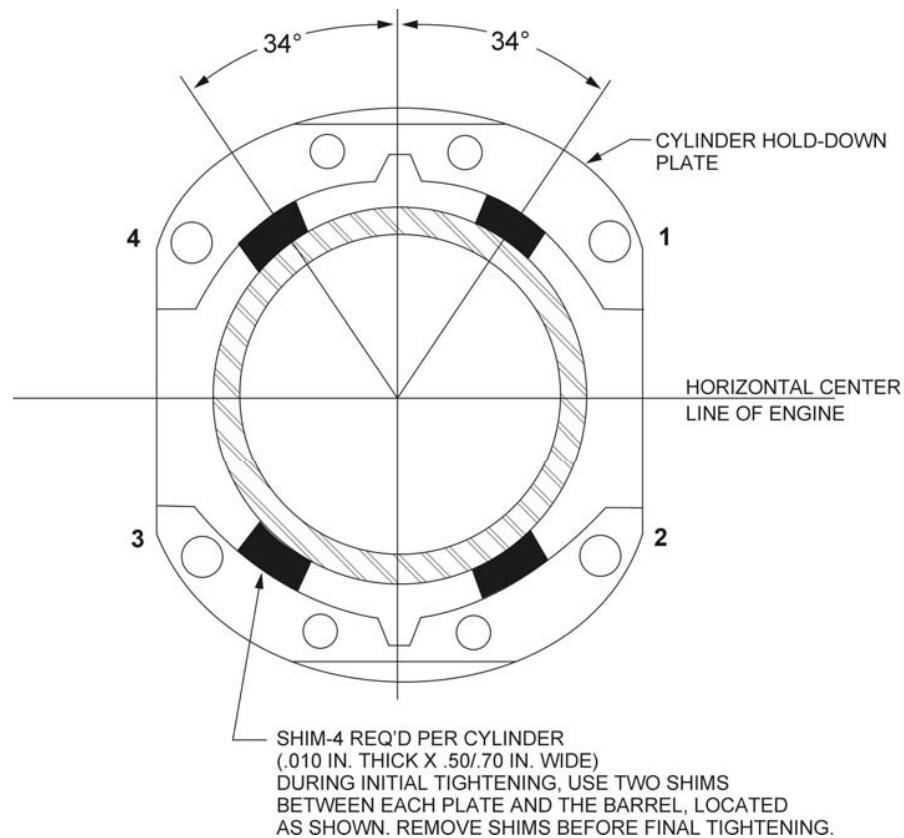

Figure 5-4. Location of Shims Between Cylinder Barrel and Hold-Down Plates (where applicable) and Sequence of Tightening Cylinder Base Hold-Down Nuts
- (a) (*Engines using hold-down plates*) – Install shims between cylinder base hold-down plates and cylinder barrel, as directed in Figure 5-4, and tighten $\frac{1}{2}$ inch hold-down nuts to 300 in.-lbs. (25 ft.-lbs.) torque, using the sequence shown in Figure 5-4.